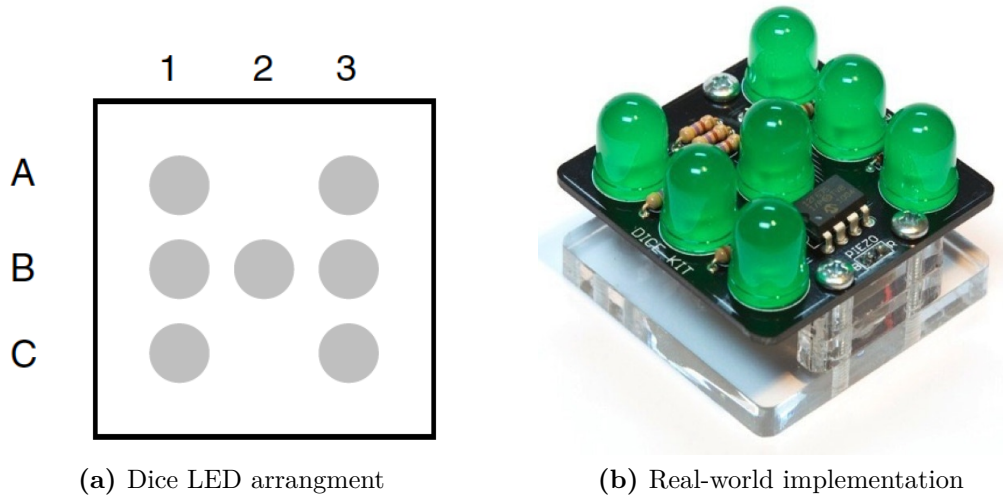
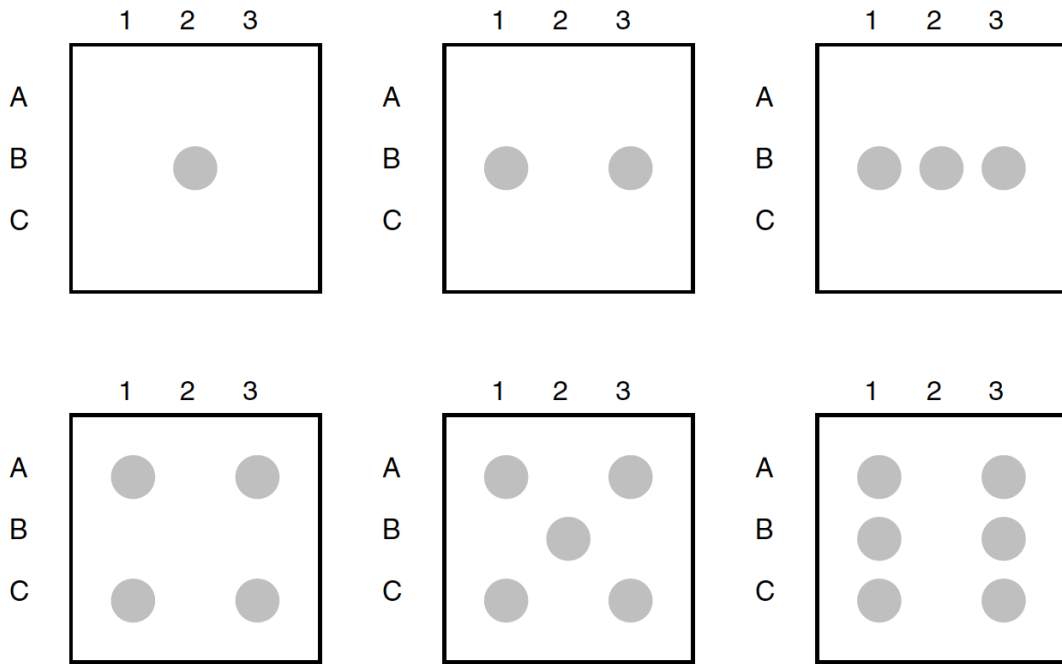
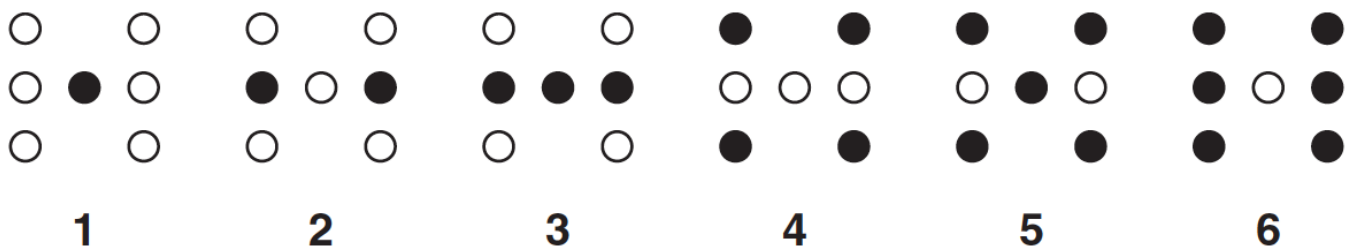

FIGURE 1. Output LED arrangement for the dice.
FIGURE 2. LEDs light up in this fashion for the numbers 1 to 6.
FIGURE 3. LED layout arrangement and the corresponding digits
- The device should have an input switch, and upon pressing the switch, a number (selected randomly by the controller) between 1 and 6 should be displayed. As shown in Figure 1, Figure 3 and Figure 2 the LEDs are organized such that when they turn ON, they indicate numbers as on a real dice.